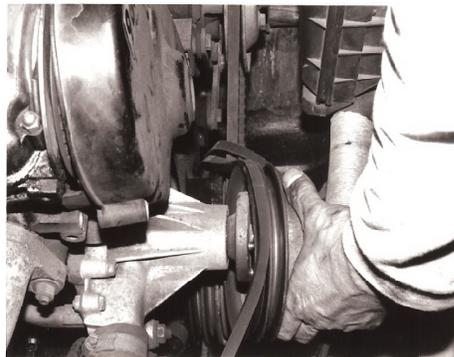
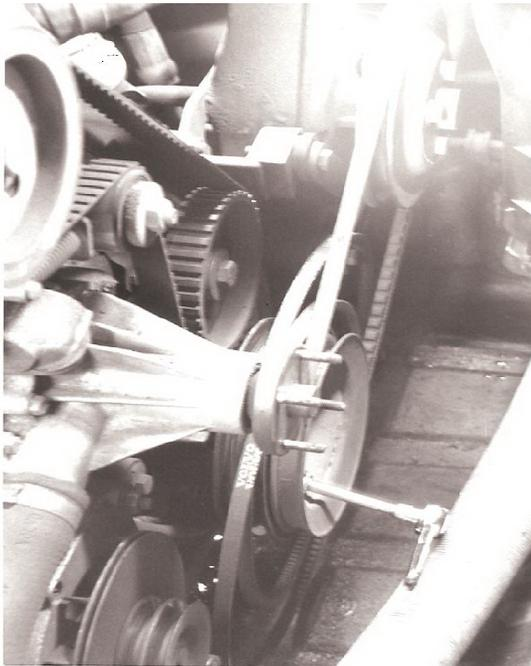

Figure 7. Removing the waterpump pulley hub and fan belts.
Figure 12. The outer and inner crankshaft pulleys are easily unbolted and removed. Inner fan belts hang loosely.
**4.** Slip waterpump hub and fan belts off (**Figure 7**). Hang the two belts out of the way per **Figure 12** or **Figure 23**.
Remove the 6, 10-mm bolts (or 2 nuts, 4 bolts) on the crankshaft pulleys (Figure 12) and slide the